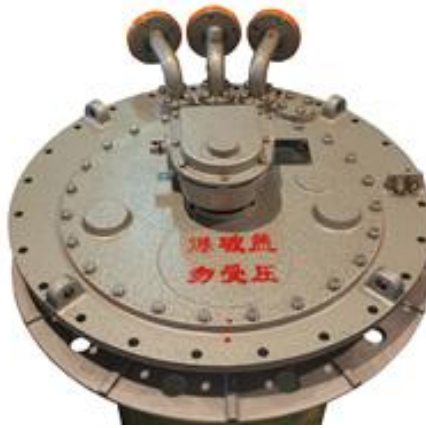

Figure 24
- (10) Put the switch head cover and cover the tap changer. The O-ring on the head cap must be placed in the correct position.
- (11) Evenly tighten the 24 M12 bolts on the cover of the tap-changer with a tightening torque of 34 Nm (Fig. 24).